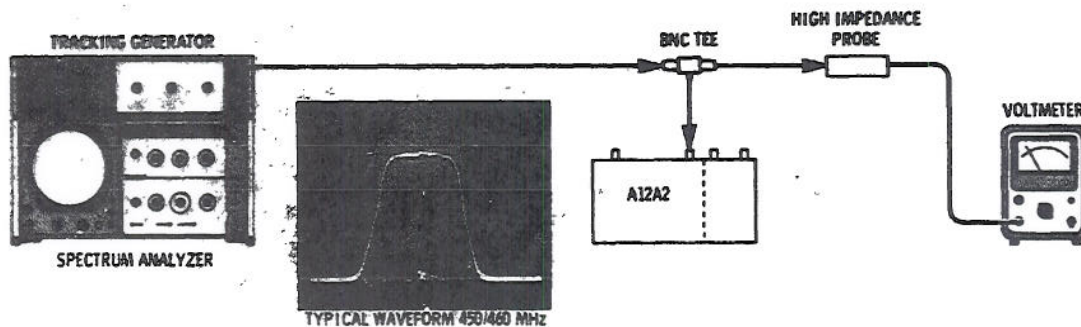

Figure 5-5. Preliminary Adjustment Setup (450/460 Bandpass Filter)
7. Connect the equipment together as shown in Figure 5-5.